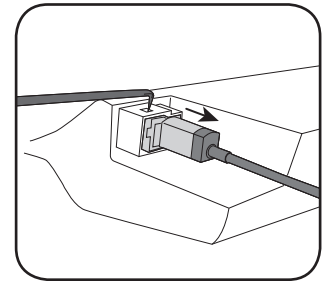

Fig. 1.11
- Using a pick tool release the clips at the top and bottom to release the USB, remove USB and disconnect the harness. (Fig. 1.11)